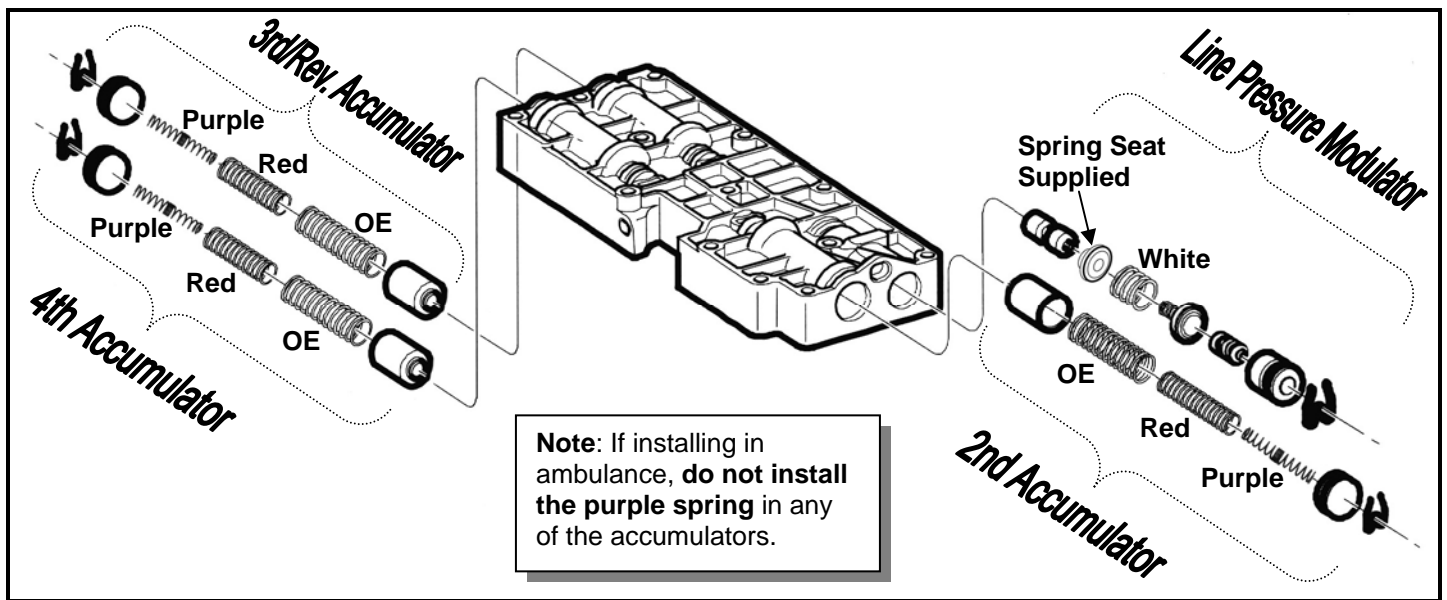

Figure 1
1. Reference **Figure 1**. Line pressure Modulator valve train.